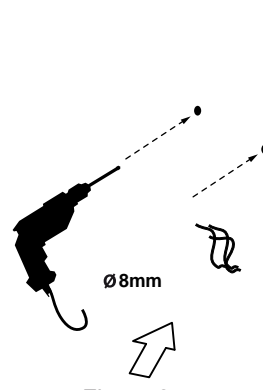

Figure 2
2: **If using wall anchors:** using a drill, create a hole in the wall for each wall anchor over the marked locations. Insert (x 2) wall anchors (B). Insert (x 1) 2" screw into each wall anchor. Figure 2.
If installing directly into wall studs: using a drill, insert (x 1) 2" screw into each marked location. Figure 2.